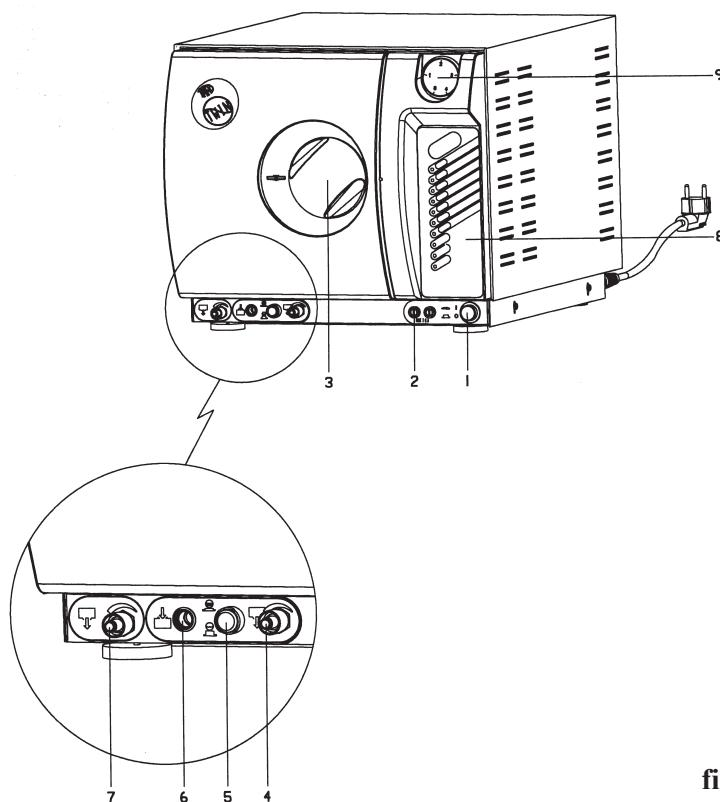
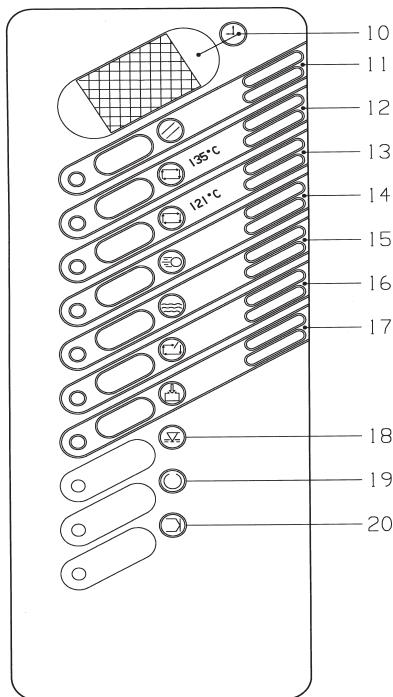

fig. 1
fig. 2
8. Control panel (see fig. 2, page 29)
- ⇒ Open door by turning handle 3 counterclockwise (fig. 1, page 28) and withdraw contents of chamber.
- Press the **luminous main switch 1** (fig. 1, page 28). The notice **Pr** appears on the display and the **RESET** warning light **11** lights up.
- Open door by turning **handle 3** counterclockwise (fig. 1, pag. 28).
- Fill the **filling tank** with **distilled water** or **Composite** solution using the tube supplied. Insert the tube part with quick connector in the connector provided **6** (fig. 1, page 28) and the other end in the can. Press **LIQUID FILL** push-button **17** (fig. 2, page 29). When **MAXIMUM LEVEL** warning light **17** goes on the fill pump stops automatically
- Select liquid with **switch 5** (fig. 1, page 28).
- Close the door by turning handle **3** clockwise (fig. 1, page 28). The programmed cycle is performed automatically.
- Before setting desired cycle make sure the liquid in the fill tank is the liquid selected with switch 5 (fig. 1, page 28). In case of doubt it is advisable to empty the fill tank completely using the drain tap 4 (fig. 1, page 28) and fill it with the selected sterilization liquid.
PROGRAMS (symbols page 29 - fig. 2)
- If it becomes necessary to clean the sterilization chamber, turn off the main switch **1** (fig. 1, page 28) and allow chamber to cool.
- ⇒ Turn off main switch **1** (fig. 1, page 28).